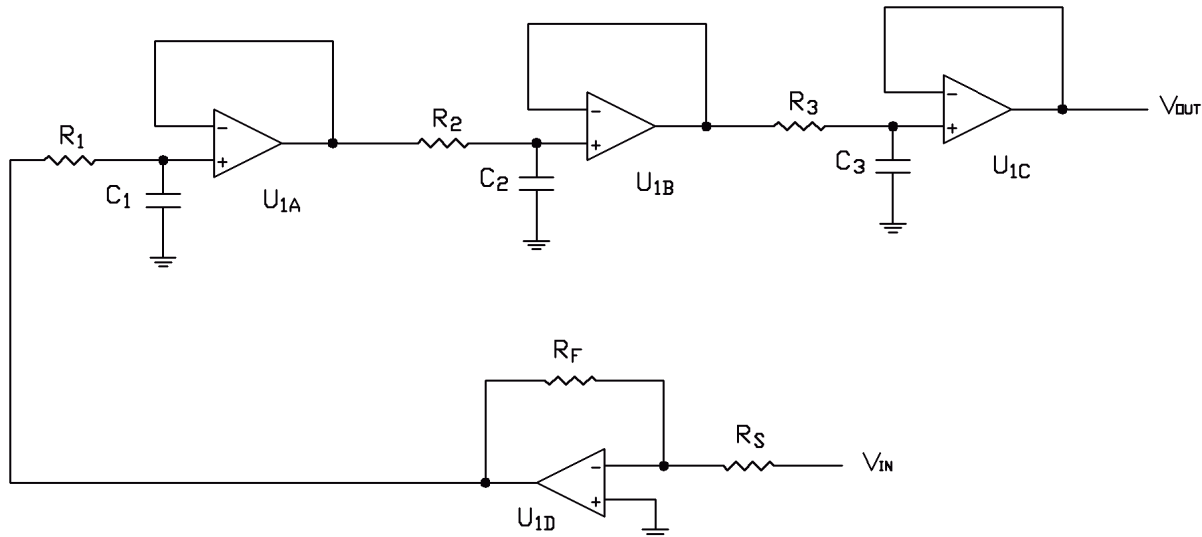

Figure 1 RC Oscillator
In Figure 1 given that $R_1=R_2=R_3=10\text{K}$, $R_F=2\text{K}$, $R_S=1\text{K}$, $C_1=C_2=C_3=0.01\mu\text{F}$, and U1 is an LT1014 op amp (or, use four 741 op-amps), calculate the gain and phase shift, $V_{\text{OUT}}/V_{\text{IN}} / \phi$. Draw a Bode plot from 100 Hz to 10 kHz. From your design equations and Bode plot, determine if this circuit will oscillate if V_{OUT} were connected to V_{IN} . If you decide that the circuit will oscillate, determine the frequency of oscillation. If you decide that the circuit will not oscillate, determine what has to change to make it oscillate. Simulate this circuit using LTspice or PSpice.
10.2 Lab Procedure: Build the circuit shown in Figure 1 and measure the open loop gain, $V_{\text{OUT}}/V_{\text{IN}}$ and compare it to your design equations and the simulation. Do a frequency sweep (both phase and gain) to determine the phase margin and the gain margin (which will be negative if the circuit will oscillate).